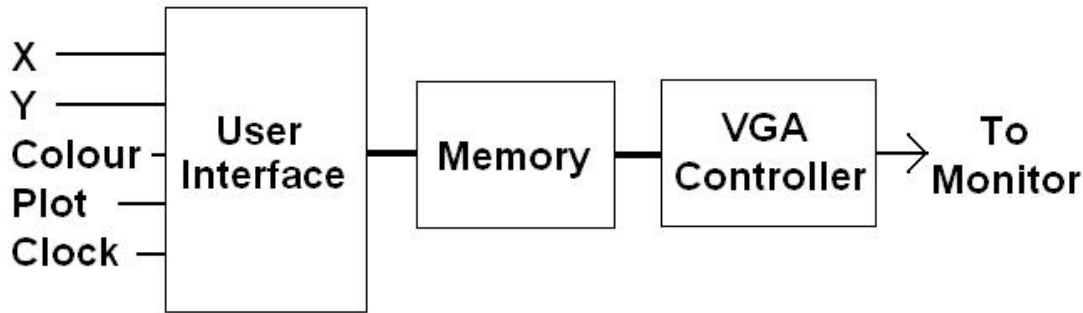

Figure 4: VGA adapter module schematic. Resetn is not shown.
**DE1\_SoC Board + VGA Monitor** The DE1\_SoC board has a VGA interface that enables you to connect the board to a VGA monitor. You are provided with a VGA adapter module in Verilog. It has an input interface of a pixel coordinate and a colour for the pixel. A pixel is one of the *dots* drawn on your screen. A VGA display is made up of  $640 \times 480$  pixels. The VGA adapter logic will draw the colour on the screen at the specified pixel coordinate. The VGA adapter that you will use is shown in Figure 4.
***fake\_fpga*** *fake\_fpga* has a simple VGA-like interface that can display images at the bottom of the GUI. When using *fake\_fpga*, you can assume that the VGA adapter is a part of *fake\_fpga*, rather than being a module that you have to instantiate. The interface to the *fake\_fpga* VGA is the same as the physical VGA adapter module interface shown in Figure 4. This is a good alternative if you do not have the hardware available.
In Figure 4, the memory block shown is called the *frame buffer*. Through the user interface, a user can update the contents of the frame buffer. The *VGA Controller* in Figure 4 continuously reads the frame buffer and displays the image in the frame buffer by driving the signals that are sent to the monitor.